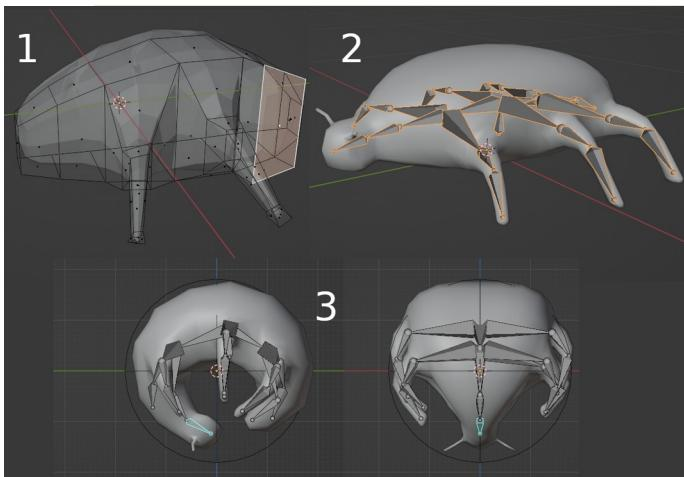
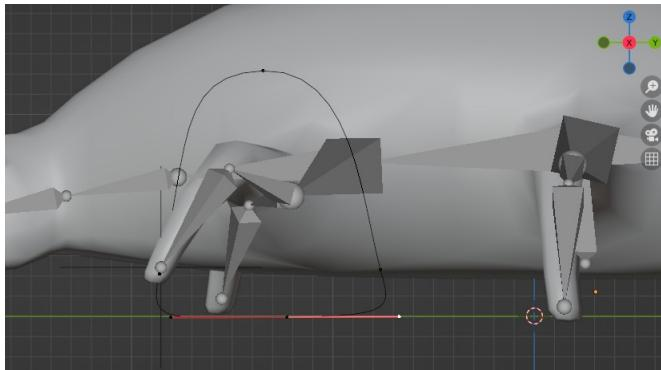

Figure 12-11 Crafting and Rigging the Bug
Figure 12-12 The Bezier Circle to Control an IK Constraint
1. Start a new Blender scene, saving your previous work, but leave the start cube as the basis for the bug mesh, and rename it bug. The balls in the simulation were radius 0.2 so the bug should be about 0.6 long, 0.2 high and 0.4 wide. You can see the proportions in Figure 12-11 stage 2, and when curled up in stage 3. With the cube selected enter Edit mode and scale the vertices down to the size of the middle leg section. To help with the animation later, design the bug so it is walking on a surface running through the origin as shown in Figure 12-12. Extrude and scale sections in the Y direction for other body sections, the head and tail. Once you have enough divisions along the length of the bug use mesh bisect as you did in Chapter 10 then add a mirror and a subdivision modifier and set shading to smooth.
3. Because the bug is symmetrical you only need to construct one half of it. Start by adding a new armature object, set it to display in front of the mesh, then switch to Edit mode in orthographic view from the X direction, and scale the initial bone down so it's about a third of the height of the bug, as visible in Figure 12-11 stage 2. Extrude this forwards four times and backwards three times to make the spine – if that's the right term for an invertebrate. In orthographic view from above extrude three bones from matching nodes on the spine to the points where each leg joins the carapace, renaming each bone "leg1.001", "leg2.001" and "leg3.001". Now, when you extrude these bones the suffix will increment, and if you set snapping to volume, you can position the bones to the center of the legs as you extrude them. Remember to turn snapping off afterwards otherwise you will run into problems when you try to move control points or objects later.
5. Before you set up the scuttling animation, create the pose with the armature curled up, changing to the unposed state as an uncurling animation. With the armature selected and in Pose mode, view the bug from the side in orthographic view. Move the spine bones to make the mesh as spherical as possible then view from different angles and fold the legs in. In Figure 12-11 stage 3 you can see the two orthographic views, and also that I added a rigid body with a spherical collider to help position the bug inside, though you will need to remove the rigid body when
6. You will now create a second strip to make the legs move, so click on **+ NEW** to create the action and rename it scuttle. When you move the frame pointer you will find that the NlaTrack for uncurl is still being followed because there is no action yet set above it in the stack. Move to frame 1, in Pose mode select all the bones, clear the transforms and add a keyframe for the unposed state. To set up leg movement, switch back to Object mode and add a Bezier circle object then, in Edit mode scale, rotate and move it to the path that the end of the front left leg should follow, as shown in Figure 12-12. Add an empty and reduce its size in the Object Data Properties tab so it matches the scale of the bug, then add an object constraint **Follow Path** setting the Target to the Bezier circle you just added. Click the button **Animate Path** to automatically create the modifier in the curve. You now just need to select the armature and, in Pose mode select the end bone of the front left leg. Add an inverse kinematic bone constraint setting the Chain Length to **2** and the Target to the empty.